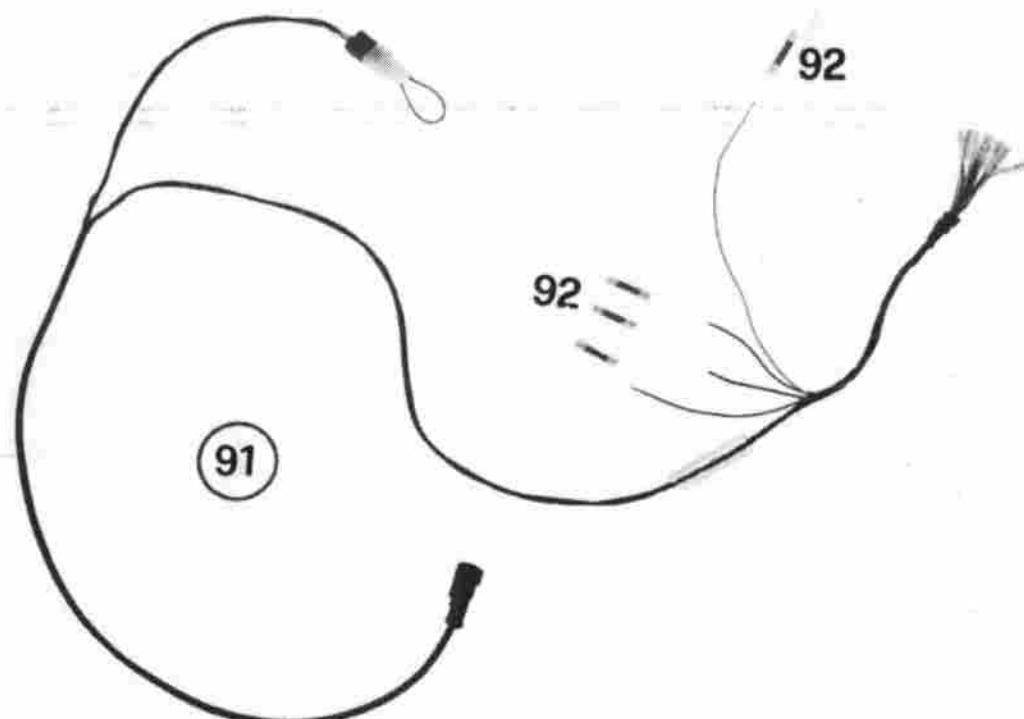

FIG. 3.1
**ELENCO MATERIALE FORNITO (FIG. 3.1)**
**LISTE DU MATERIEL FOURNI (FIG. 3.1) / LIST OF SUPPLIED MATERIALS (FIG. 3.1)**
**VERZEICHNIS DES GELIEFERTEN MATERIALS (ABB. 3.1) / LISTA MATERIAL ABASTECIDO (FIG. 3.1)**